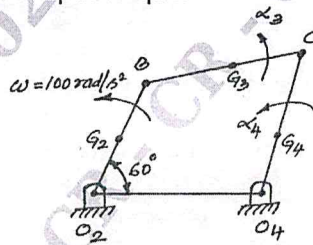

Fig. Q2 (b)
- b. A four bar mechanism shown in Fig. Q2 (b) has the following length of various links $O_2O_4 = 800$ mm, $O_2B = 330$ mm, $BC = 500$ mm, $O_4C = 400$ mm, $O_2G_2 = 200$ mm, $BG_3 = 250$ mm, $O_4G_4 = 200$ mm. The masses of links are $m_2 = 2.2$ kg, $m_3 = 2.5$ kg, $m_4 = 2$ kg. The moment of inertia of links about their C.G are $I_2 = 0.05$ kg-m², $I_3 = 0.07$ kg-m². The crank O_2B rotates at 100 rad/s². Neglecting gravity effects, determine the forces in the joints and the input torque. (12 Marks)